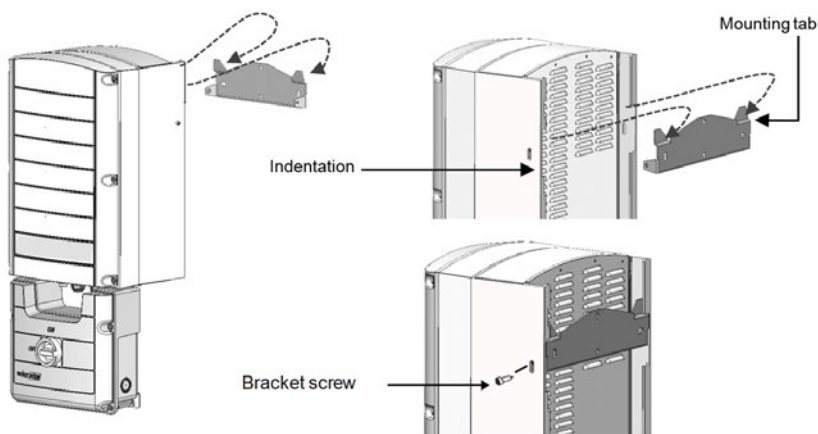

Figure 17: Hanging the inverter on the bracket
- Ensure that the flat edge of the bracket is at the bottom, as in *Figure 17*.
- Hang the inverter on the bracket (see *Figure 17*): Lift the inverter from the sides, or hold it at the top and bottom of the inverter to lift the unit into place. Do not lift holding the Safety SwitchDC Safety Unit as it may be damaged.
9. Insert the two supplied screws through the outer heat sink fin on both sides of the inverter and into the bracket (see *Figure 17*). Tighten the screws with a torque of 4.0 N*m / 2.9 lb.*ft.